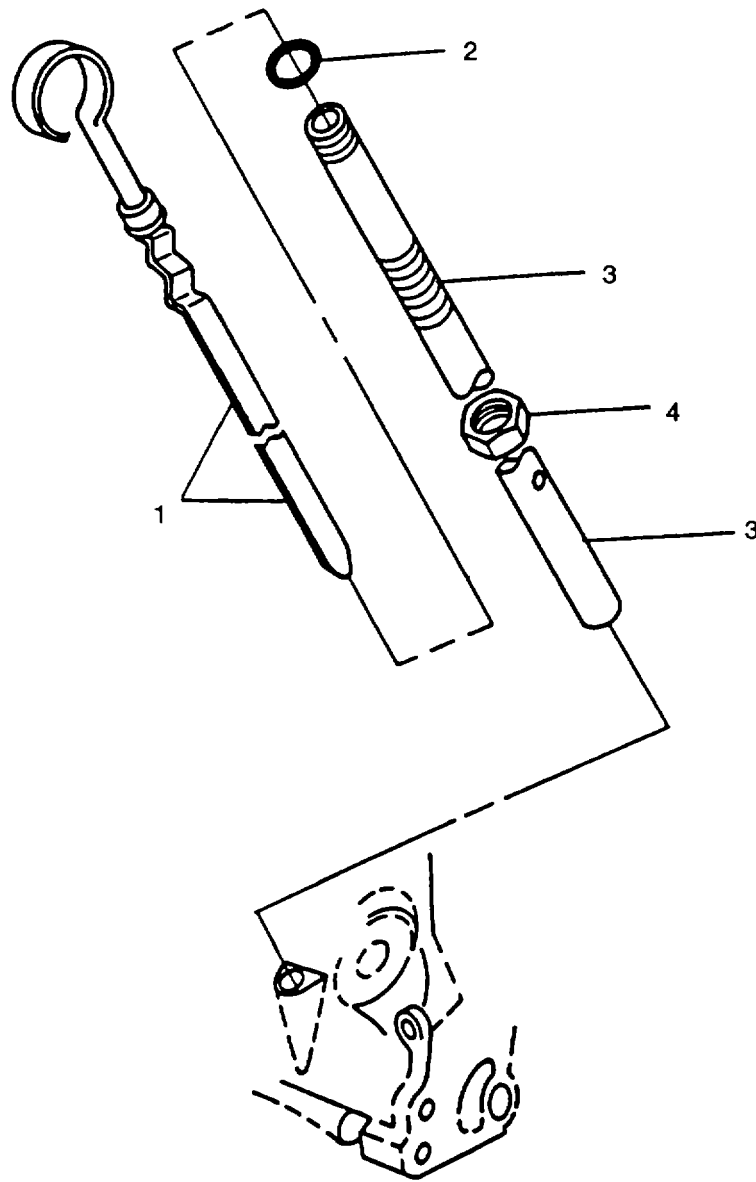

FIGURE 3-51. Dipstick
- a. Remove dipstick (1, FIGURE 3-51) from tube (3). Remove and discard preformed packing (2).
- a. Install jam nut (4, FIGURE 3-51) on tube (3) exposing number of threads above nut as noted during removal.
- b. Screw tube (3) into engine block and tighten jam nut (4).